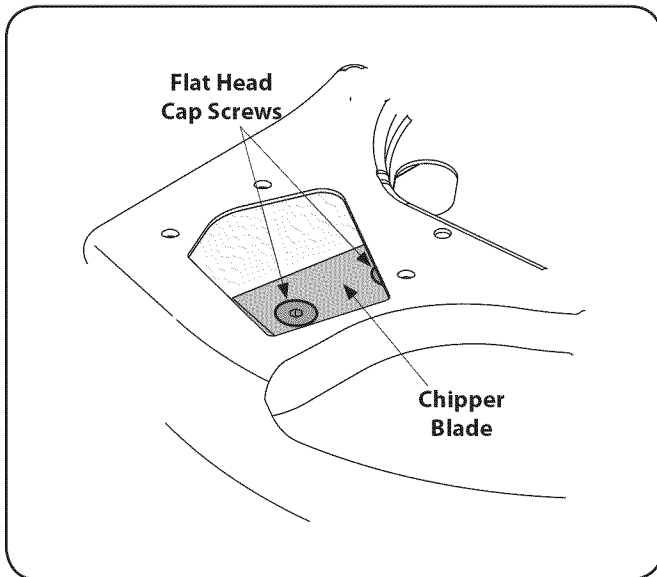

Figure 7-5
- Using a 3/16" allen wrench, remove the flat head cap screws that hold the chipper blade to the impeller. These screws are accessible through the opening created when the chipper chute was removed earlier. See Fig. 7-5.